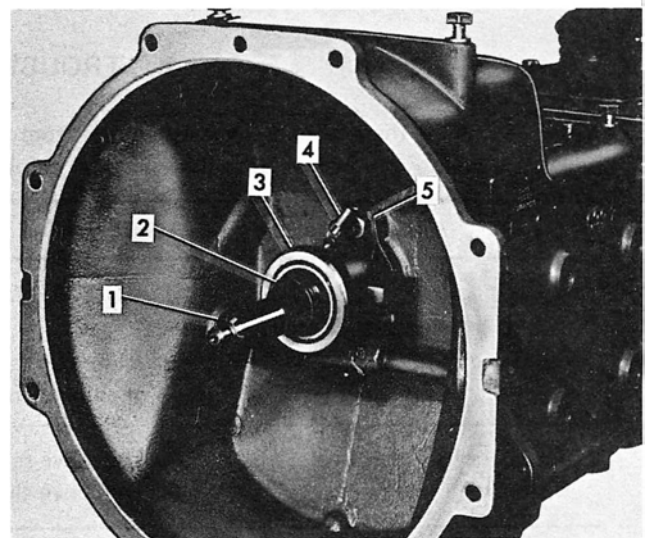

Figure 6
5. Install the release bearing on the bearing release hub and move the hub to the rear of the clutch case. Connect the return spring to the hub and spring hanger, Figure 6.